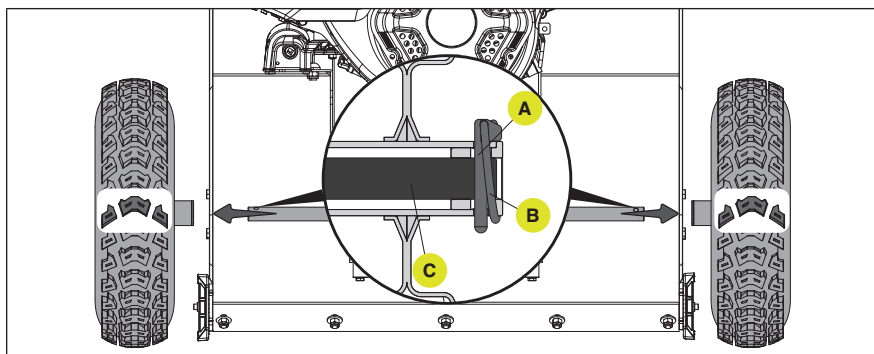

Figure 1
To make the lower handle easier to assemble, remove the wheels from both sides. For each wheel, locate the pin (A) holding the wheel on. Lift the ring (B) around the axle (C) and then pull the pin (A) out holding the wheel on (Fig.1). Repeat on the other side. Remove the wheels and carefully place the snowblower on the ground.